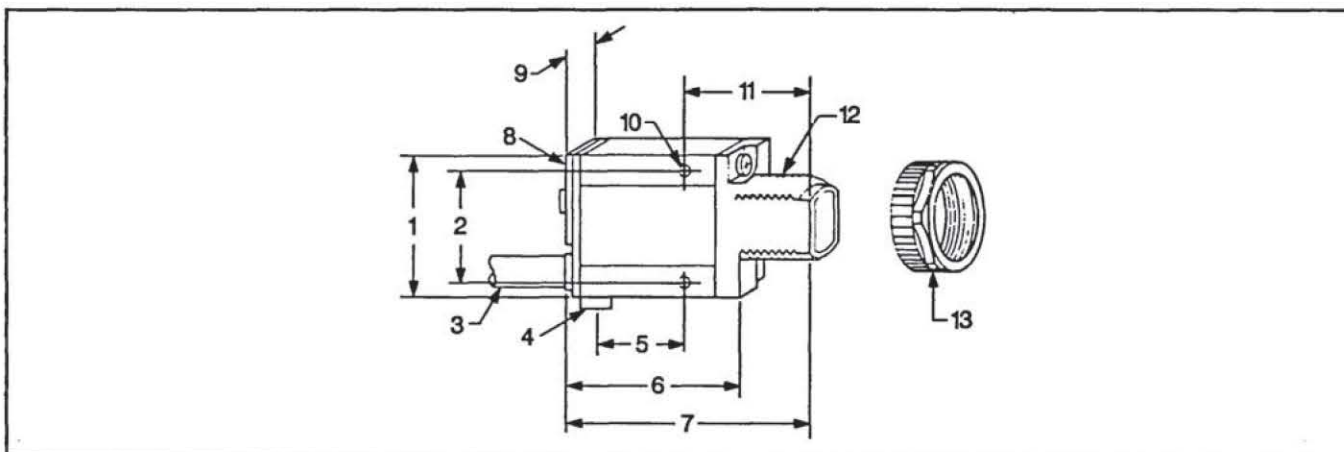
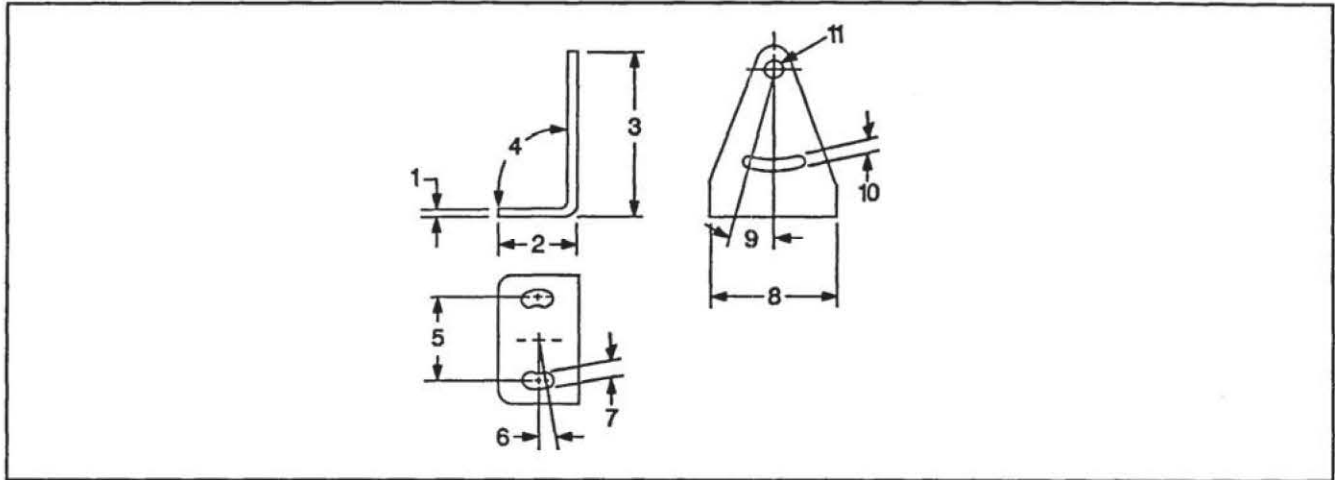
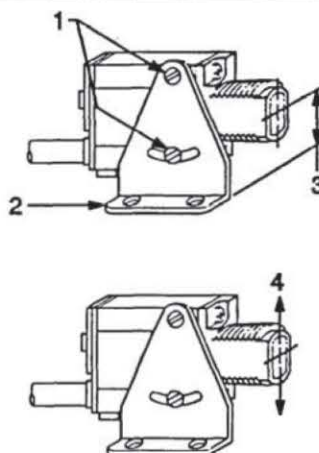

Figure 3.11 - Sensor dimensions
Figure 3.12 - Sensor bracket dimensions
Figure 3.13 - Connecting the sensor and bracket
2. Check the intended mounting position to make sure that there is enough space to mount the sensor(s) and bracket(s). See Figure 3.11, Figure 3.12 and Figure 3.13.
1. Check the intended mounting position to ensure that there is enough space to mount the sensor(s) and bracket(s). See Figure 3.11, Figure 3.12, and Figure 3.13.
5. Using the two mounting bolts provided with the sensor bracket, secure the sensor to the bracket (Figure 3.13).
1. Check the intended mounting position to ensure that there is enough space to mount the sensor(s) and bracket(s). See Figure 3.11, Figure 3.12, and Figure 3.13
6. Using the two mounting bolts provided with the brackets, secure the emitter and receiver to their respective brackets (Figure 3.13).
5. Using the two mounting bolts provided with the bracket, secure the emitter/receiver to the bracket (Figure 3.13).